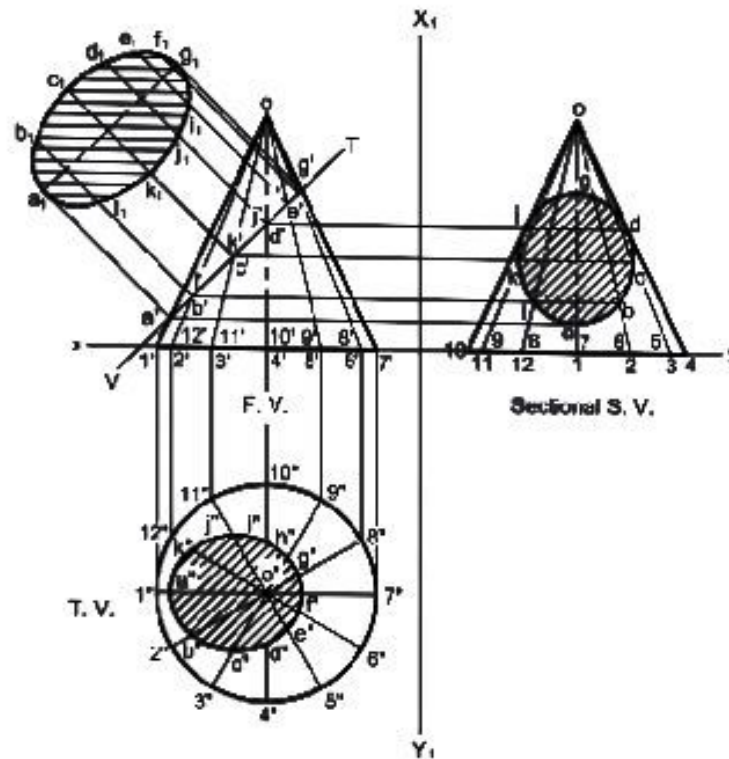

Fig. 5.102
- (3) Note the key points in F.V. naming them as a, b, c, d etc. These are points of intersection of generators with section plane.
- (4) Project key points in T.V. and S.V. For generator 0-4 and 0-10 no intersection is obtained. So, produce point d to cut end generator and with that radius, draw semi-circle to cut 0-4 and 0-10 in T.V.
- (5) The true shape of section is drawn in usual fashion as will be clear from Fig. 5.102. It is an ellipse.